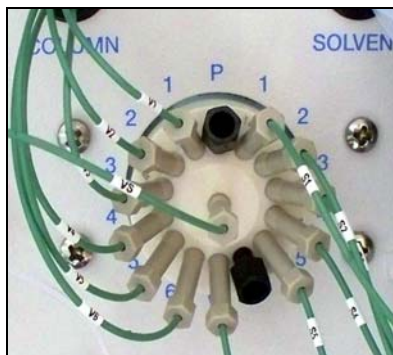

Figure 5-13. 12-Port Valve Fitting Connections
4. Reattach the fittings to the valve stator as shown in Figure 5-13 and Table 5-3. These are polymeric fittings; do not overtighten.